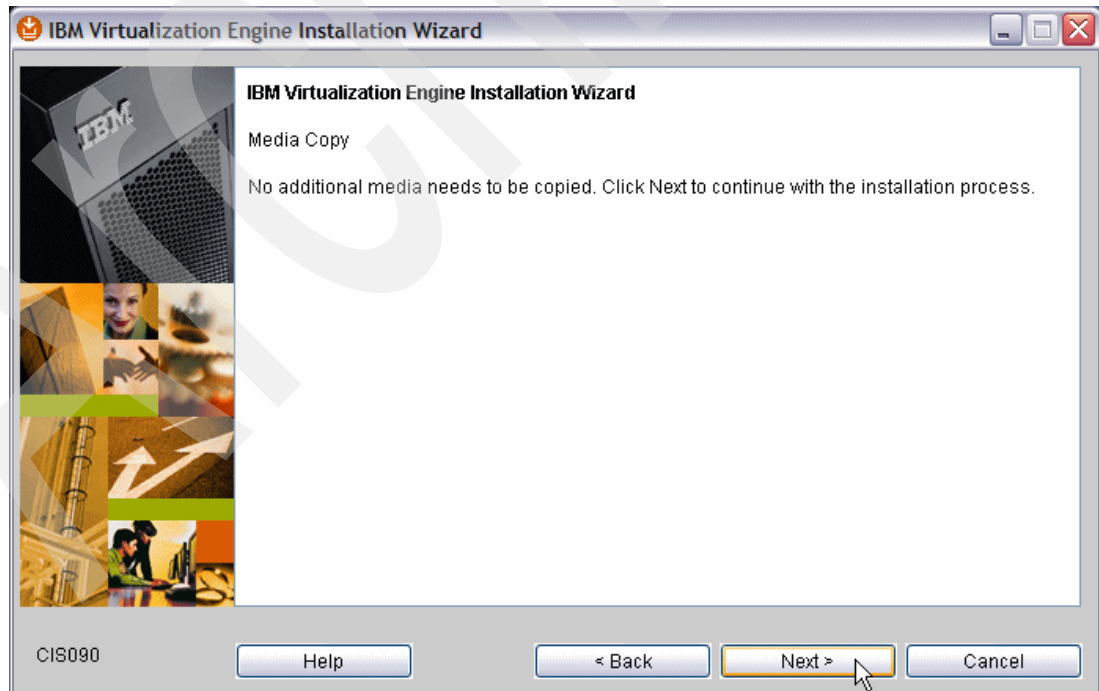

Figure 5-19 Media Copy window
Note: The Media Copy window only appears when the installation files are not on the PC. If the installation files are already on the PC, a window opens as in Figure 5-19 on page 123.
14. Another Media Copy window (Figure 5-19) opens indicating that no more media is needed for the install. Click **Next**. You will get this window at step 10, if you have already got the installation files on your Windows workstation. The files are in the temporary directory specified in step 5.